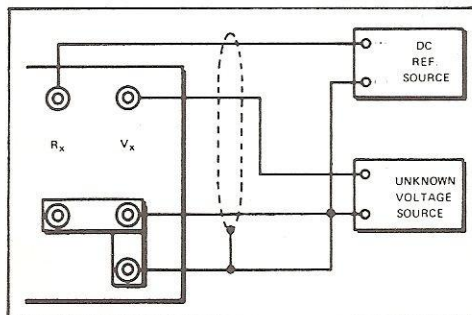

Figure 2-4. DMM Connections for RATIO Measurement
4. Install links as shown in Figure 2-4.
5. Connect voltage input signal to the front panel Vx connectors as in Figure 2-4.
6. Connect the reference voltage input signal to the front panel Rx connectors as shown in Figure 2-4.